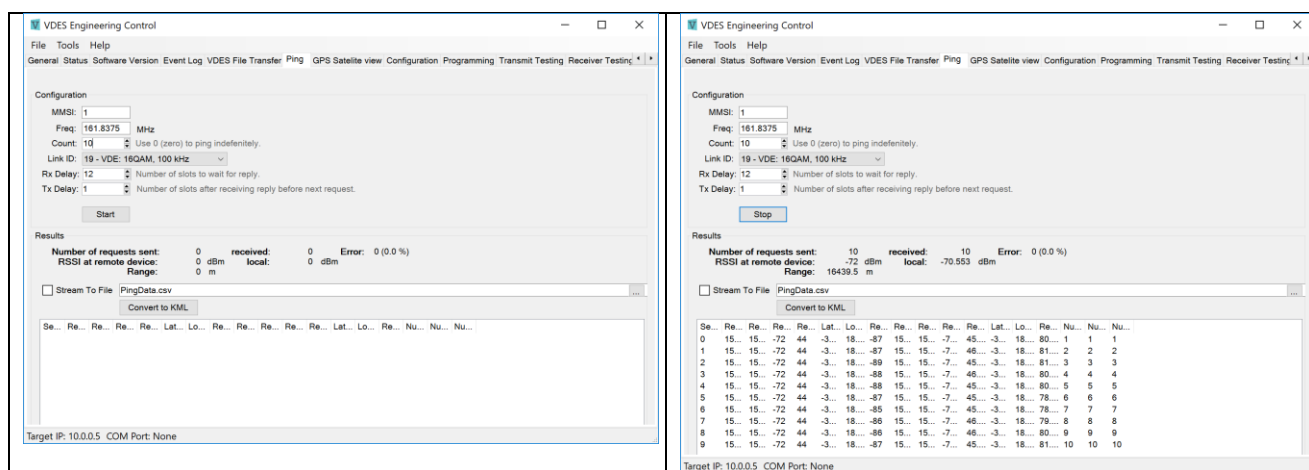

Figure 10 Configuring the Transmitter Ping test (left) and received ping data (right)
3. Open the **Ping** tab. Ensure that the **MMSI**, **Freq** and **Link ID** is configured correctly for the receiving device. The **MMSI** must be that of the responding device. The **Freq** must be that of the responding device, as reported in its **Receiver Testing** tab and the **Link ID** must correspond with the channel bandwidth of the responding device. For example, if the responding device is configured for 100kHz channel Bandwidth, then link IDs 17, 18 or 19 can be used, corresponding with Pi/4 QPSK and 16 QAM respectively. See Figure 10 (left).
7. Press the **Start/Stop** button to start the ping test. The result from response messages are shown in the table view below. See Figure 10 (right)